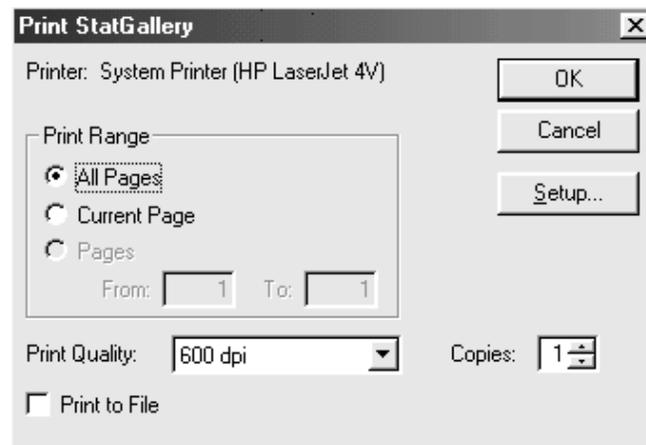

Figure 6-5. Print StatGallery Dialog Box
2. Choose FILE... PRINT... from the Menu bar to display the Print StatGallery dialog box (see Figure 6-5).